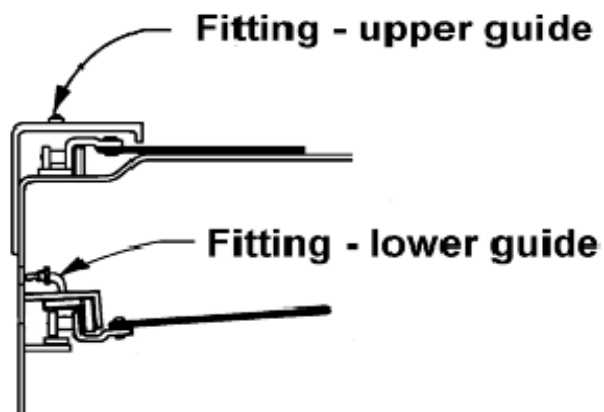

Figure 15
J. Lubrication: The upper and lower chain wear strips should be periodically lubricated. A mixture of dried grease and dust can greatly reduce the life of the chain and wear strips. This is especially true if the conveyor operates in dusty conditions. We recommend using Lubriplate Molith #2 grease. The frequency of lubrication and amount required will depend upon the load, speed, and environmental conditions. Some general guidelines are as follows: (See Figure 15)